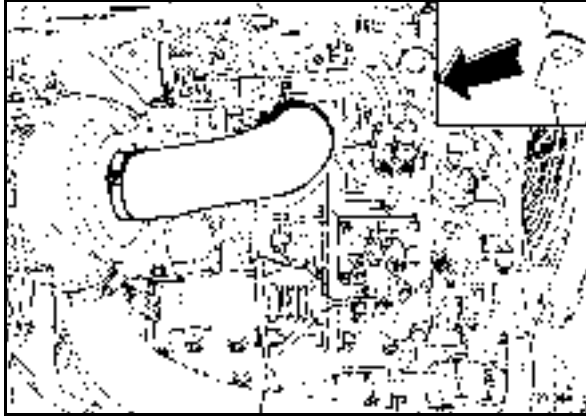

Fig. 97
- Check the fastening of the hose clamps (Fig. 97), tighten if necessary.